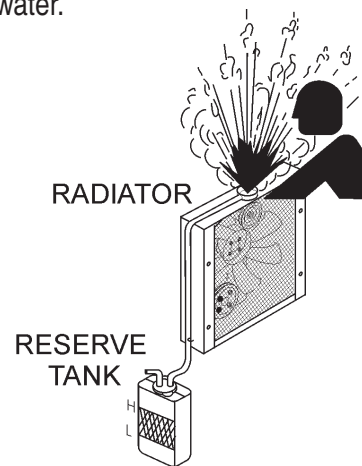

Figure 34. Radiator/Reserve Tank
2. Check coolant in the reserve tank daily (Figure 34). Make sure the level is between the FULL (H) and LOW (L) markings. Fill reserve tank with a mixture of 50/50 antifreeze/water.